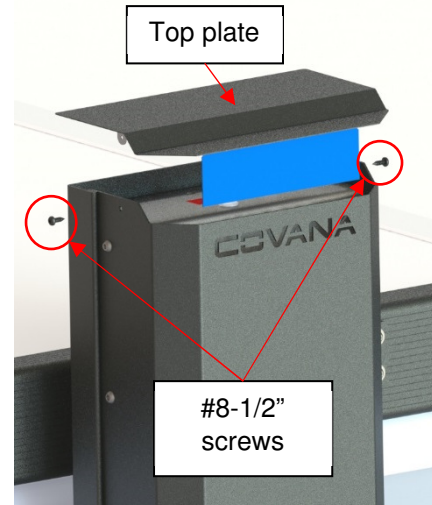

Figure 29
- 2) Remove the top plate by unscrewing the two #8-1/2" screws. (Figure 29) Do not discard these screws.
- 7) Reinstall the top plate by screwing the two #8-1/2" screws. (Figure 29)